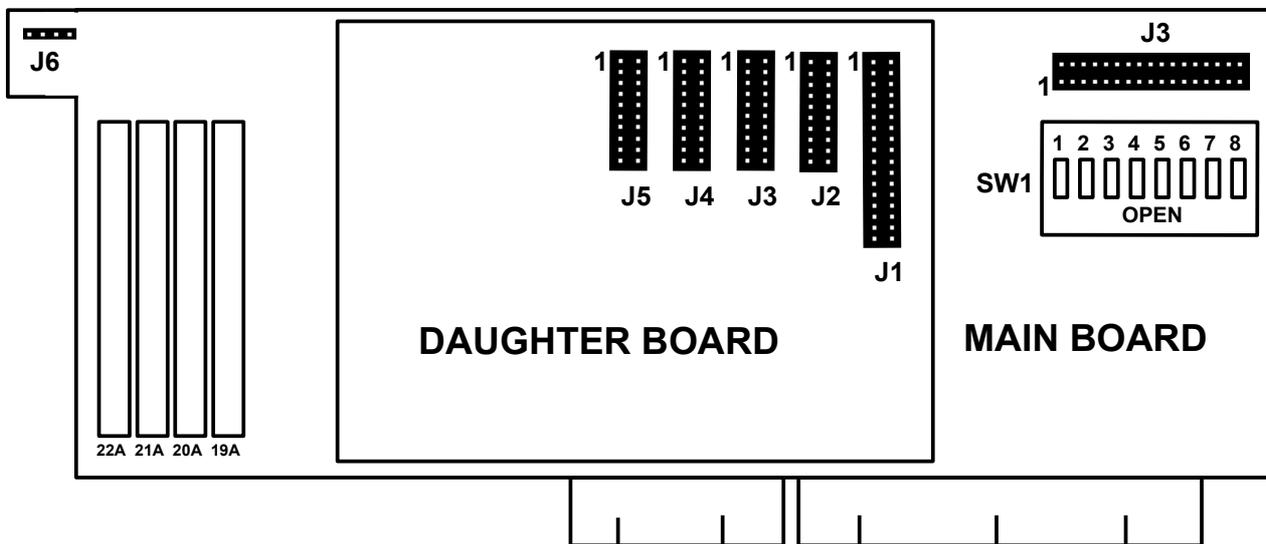

Figure 1
- Connect the 4-pin drive light connector from the front panel of the computer to connector J6 on the DTC6290-24 controller board. Refer to Figure 1 for the connector J6 location.
The ESDI disk drives are connected to the J1-J5 connectors on the daughter-board. The connector locations and Pin 1 orientation for these connectors are shown in Figure 1. The colored edges of the ribbon cables must always be aligned with Pin 1 of both the controller board and the ESDI disk drive(s).
The floppy disk drives are connected to the J3 connector on the main board. The connector locations and pin 1 orientation for these connectors are shown in Figure 1. The colored edges of the ribbon cables must always be aligned with Pin 1 of both the controller board and the floppy disk drive(s). If connecting a PS/2 type floppy disk drive, the PS/2 type floppy disk drive must be installed as Drive B.